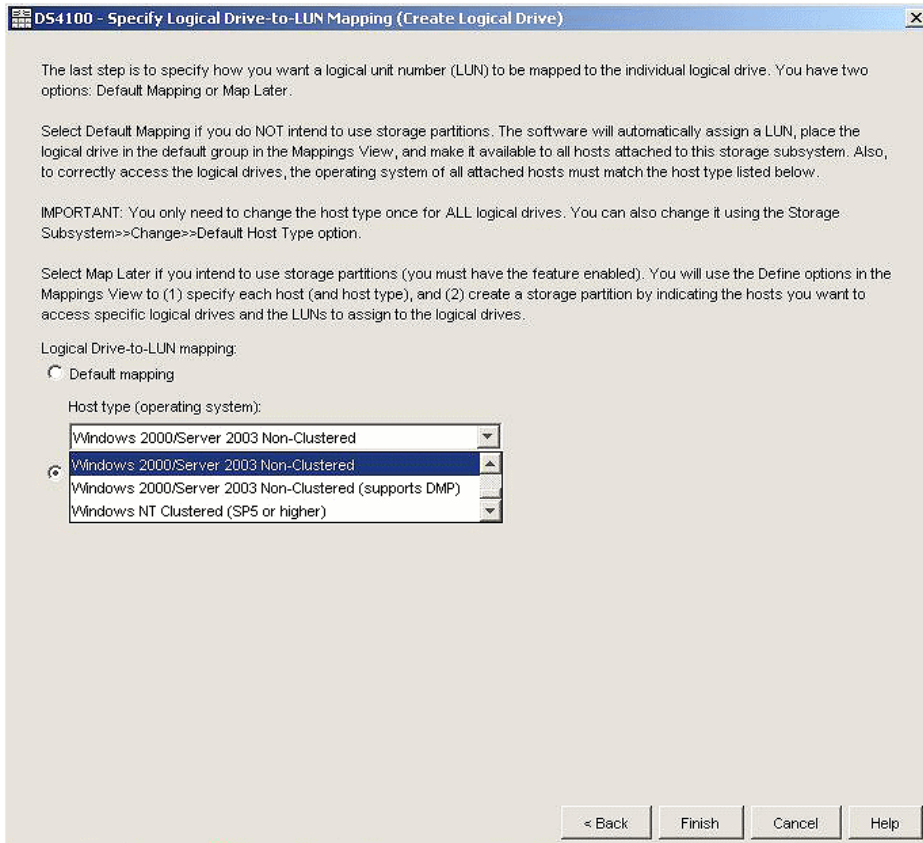

Figure 9-42 Specify Logical Drive-to-LUN Mapping (Create Logical Drive) window
11. Specify the LUN capacity and LUN name. In our example, the LUN capacity is 10 GB and the LUN name is BLADE4OS. Under Advanced logical drive parameters, make sure **User recommended settings** is selected. Click **Next** and you will see a window similar to Figure 9-42 on page 311.